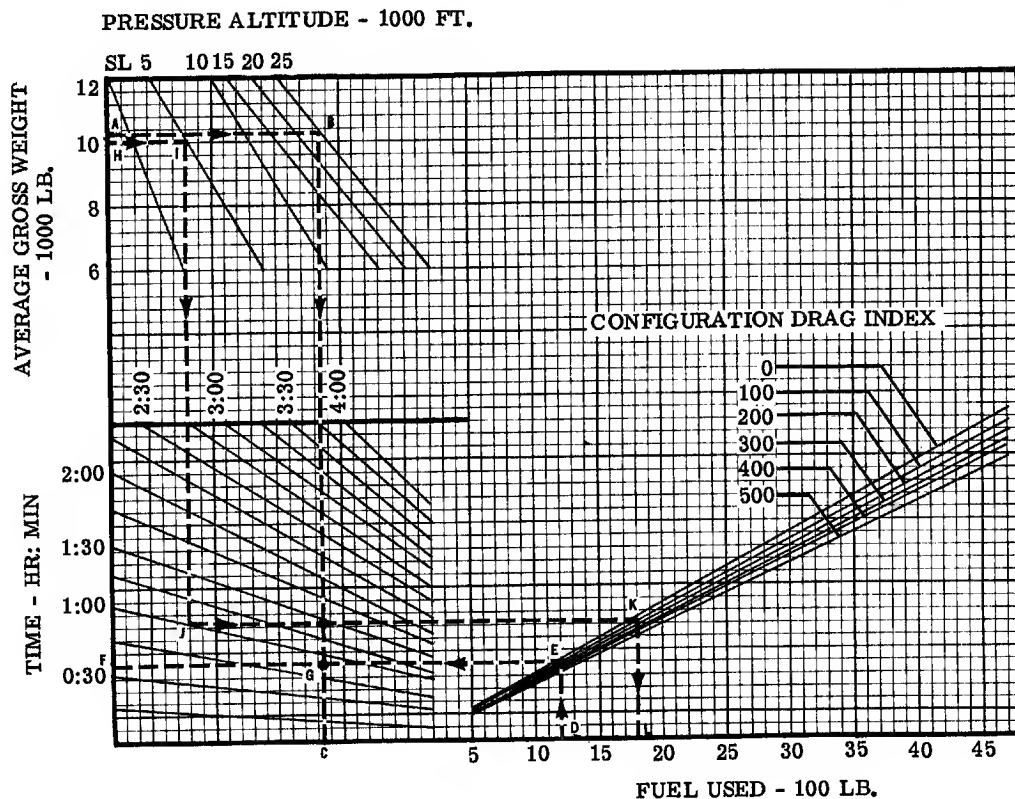

Figure A5-2
2. Enter figure A5-2:
3. Enter figure A5-2: